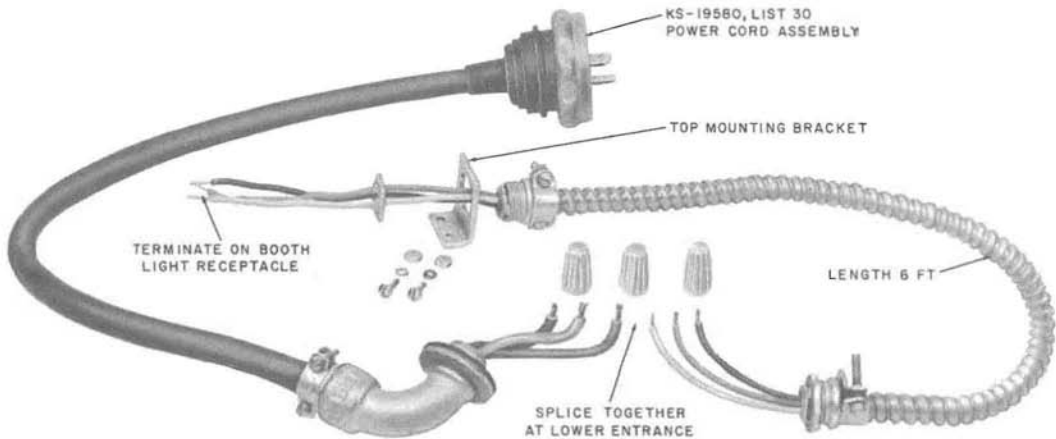

Fig. 5—KS-19580, List 31 Power Cord Group
- (b) **KS-19580, List 31 power cord group (Fig. 5):** Used for ground level entrance where a circuit breaker is not required.